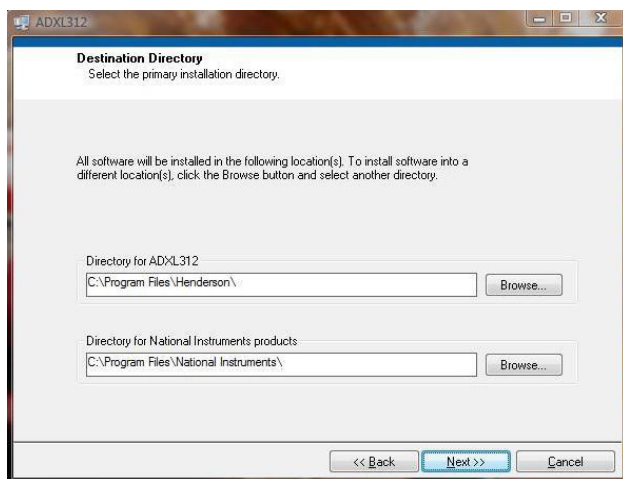

Figure 12. Destination Directory Selection
1. Select the **Destination Directory** (see Figure 12). It is recommended to keep the default settings for these fields.